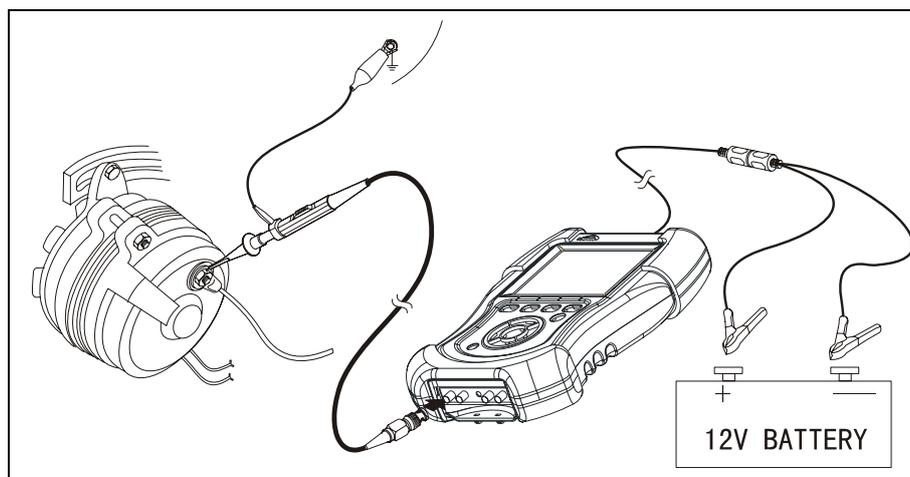

Fig. 6-1
- Connect KT600 to the generator on the vehicle, as shown in Fig.6-1;